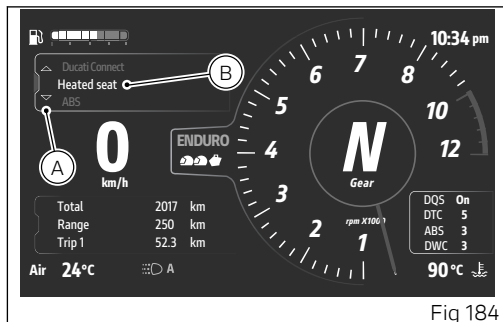

Fig 184
- Select the Interactive Menu (A, Fig 184) by pressing and holding the joystick in ▲ position for a long time.
- Use joystick ▲ ▼ to select “Heated seat” (B, Fig 184) and press ENTER.